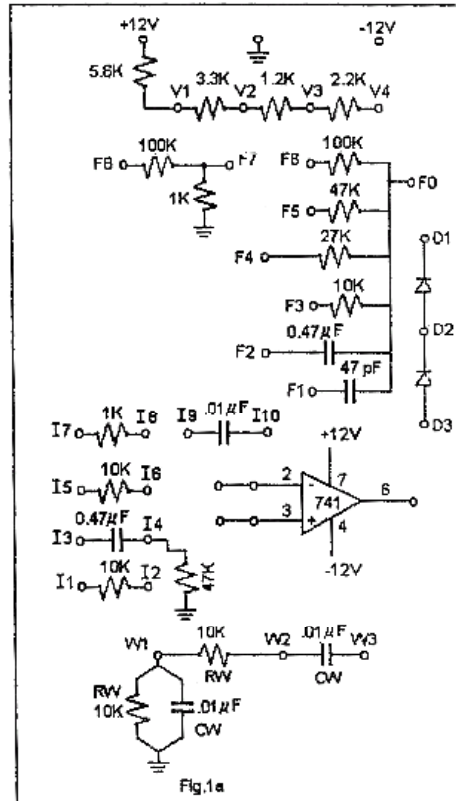
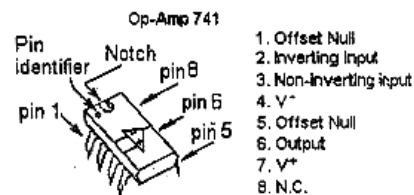

Fig.1a
Fig.1b
I. Trace the circuit in the board. Locate the components of Fig.1a. Figure 1b shows the op-amp IC 741 pin configuration. The board is powered by a bipolar supply (+12 and -12 V versus ground). Near the top of the board is a voltage divider. If terminal V4 is grounded then we have the approximate no load voltages  $V_1=+6.5V$ ,  $V_2=+3.3V$  and  $V_3=2.2V$ . If instead -12V is applied to terminal V4 then we have approximately:  $V_1=+1.0V$ ,  $V_2=-5.4V$  and  $V_3=-7.7V$ .